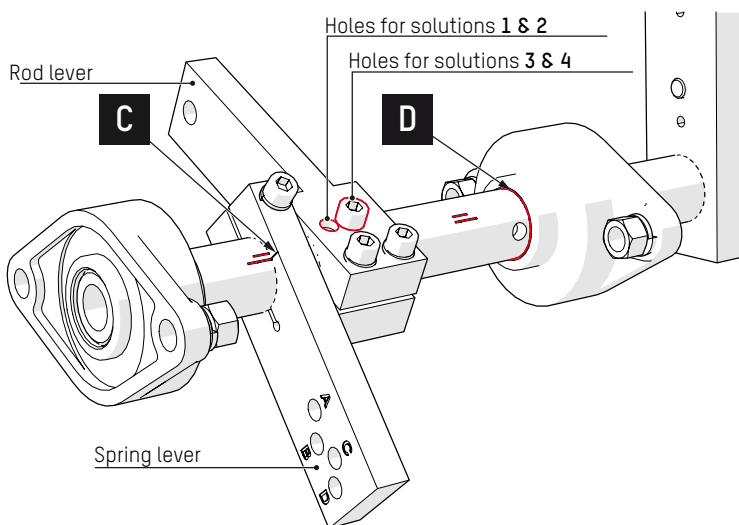
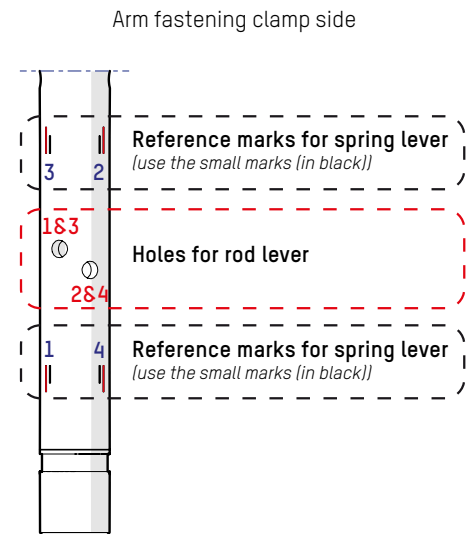

Fig. 24 - Arm shaft (Solution 4)
Fig. 25 - Rod and spring levers marks on the shaft, according to the considered solution
1. Screw the rod lever onto the shaft, by passing the screw through the holes in the rod and shaft corresponding to the considered solution (⇒ Fig. 24 and Fig. 25).
2. Align mark (C) of the spring lever with the mark on the shaft corresponding to the considered solution (⇒ Fig. 25): figures indicated on the illustration (1 to 4) indicate the reference mark to be used according to the considered solution (1 to 4). For a correct alignment, the mark must remain entirely visible (⇒ Fig. 24).
Similarly, the arm shaft must be positioned in relation to the bearings so that the circular reference mark on the arm shaft (D) is level with the side of the bearing (⇒ Fig. 24).
1. First check the position of the levers on the arm shaft (⇒ Fig. 24, page 28).
3. On the connecting rod (⇒ Rep. 20, Chap. 5.1, page 9), loosen nuts (1) and (2).